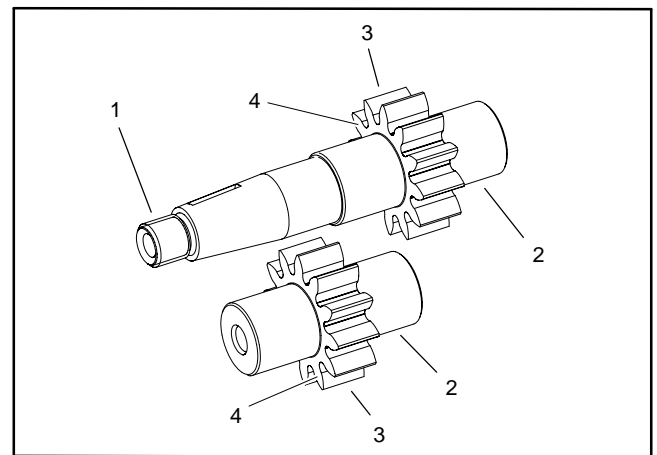

Figure 94
3. Inspect drive gears and idler gears for the following (Fig. 94):